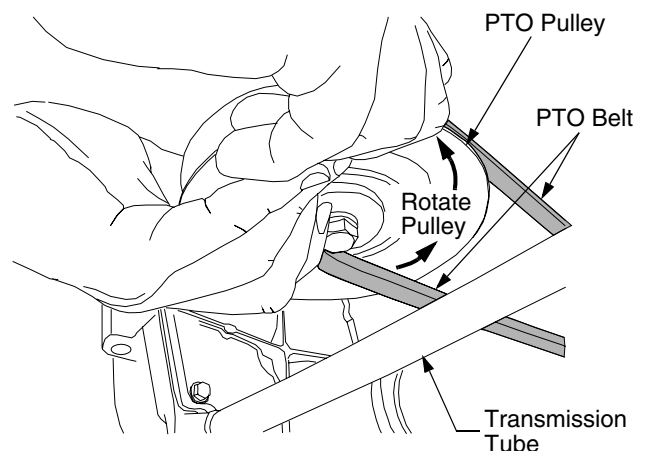

Figure 29
- Pull the right side of the belt rearward and place the narrow V side of the belt into the right/front side of PTO pulley. See Figure 29.
- While holding the belt and pulley together, rotate the pulley to the left (See Figure 29). Continue holding and rotating the pulley and belt until the belt is fully rolled into the PTO pulley. **NOTE:** If using the left side of the belt, turn the pulley to the right.